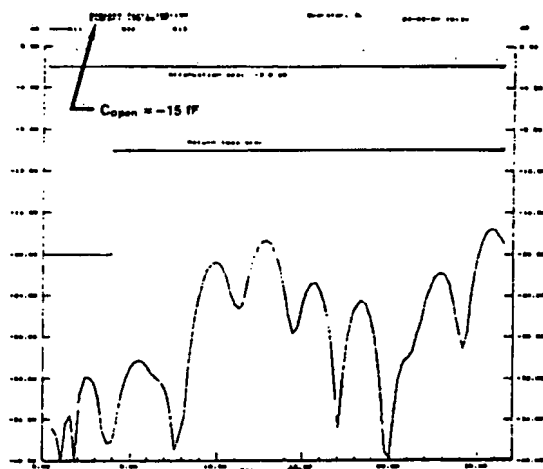

Fig. 1-3 Final-test WPH-105 probe data sheet
**Data sheet** Every microwave probe is accompanied by a probe-specific data sheet. Figure 1-3 shows data sheet final-test S-parameter test results for a WPH-105 (ground-signal-ground) probe.